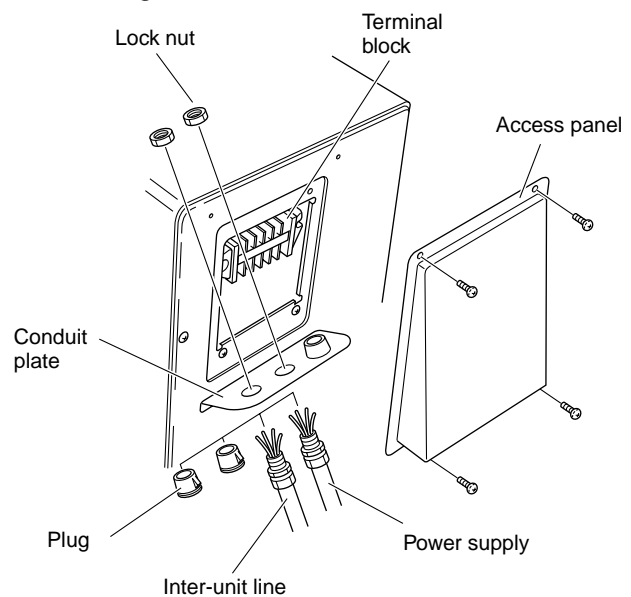
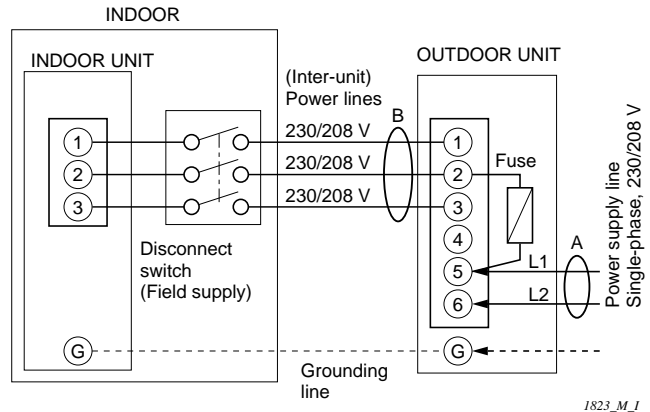

Fig. 6-1
Fig. 6-2
- (1) To take off the access panel, remove the 4 screws. (See Fig. 6-1)
- (2) Dismount plugs on the conduit plate.
- (3) Temporarily mount the conduits on the conduit plate.
- (4) Properly connect both the power supply and inter-unit lines to the corresponding terminals on the terminal block.
- Refer to the wiring diagram in Fig. 6-2 (which also appears on the access panel).